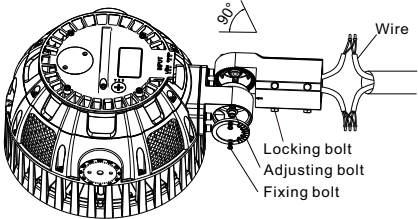

Figure 14
1. Loosen the 4 locking bolts on the slip fitter, connect the wire correctly and put the wire into pole. Then fasten the locking bolts between slip fitter and the pole. (Figure 14)
Notice: Adjustable angle is 0-90°(Figure 14).